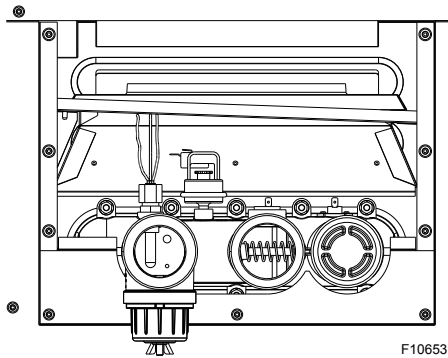

Figure 34. Component Wiring Locations - In/out Header
- Disconnect wires at high limit, AGS (automatic gas shutoff), water pressure switch on the in/out header and ProTek Shield bonding wire. See **Figure 34**.